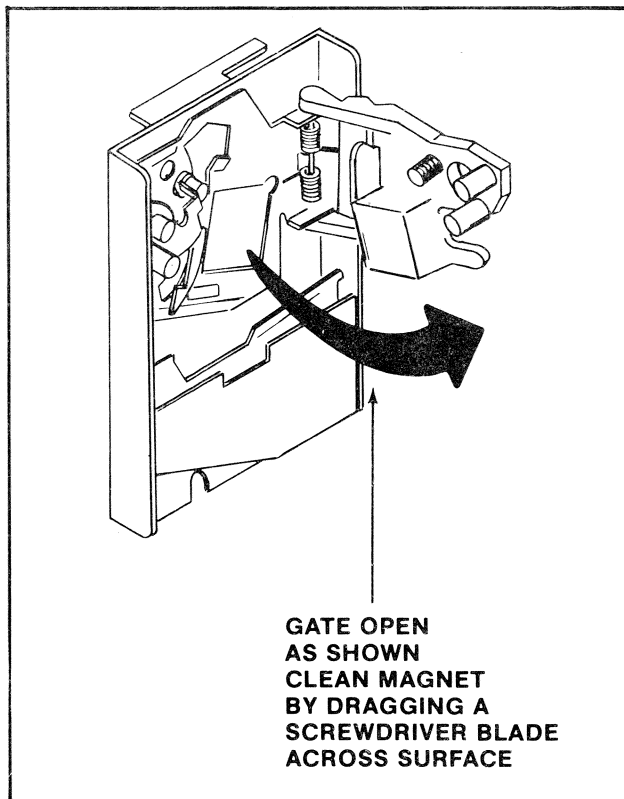

Figure 26 Cleaning the metal coin acceptor
4. Clean the magnet of all foreign particles. See Figure 26.